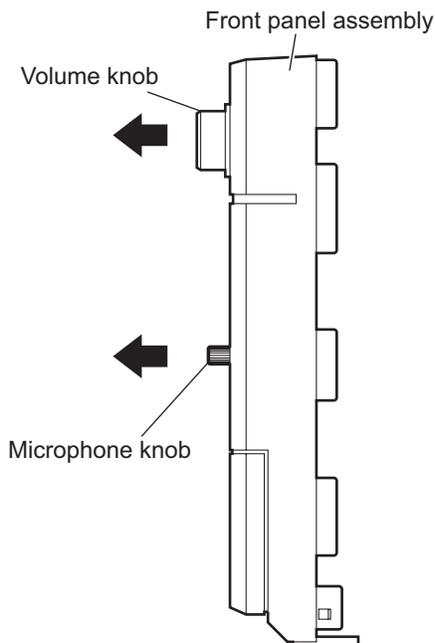

Fig.22
### 3.1.13 Removing the FL board (See Figs.22 and 23)
- From the front side of the front panel assembly, pull the volume knob out of the front panel assembly. (See Fig.22.)
### 3.1.14 Removing the switch board (See Figs.22 to 24)
- From the front side of the front panel assembly, pull the microphone knob out of the front panel assembly. (See Fig.22.)